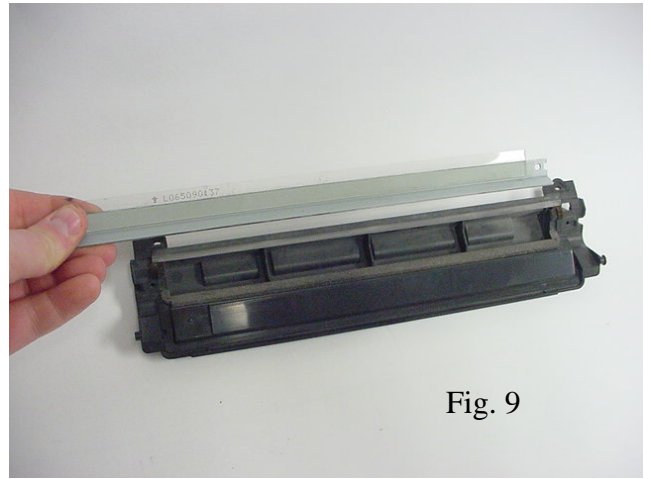

Fig. 9
9. Remove the wiper blade. Clean all residual toner from the waste bin. Inspect the recovery blade. Replace the wiper blade and set the waste bin to the side for reassembly (Fig. 9).